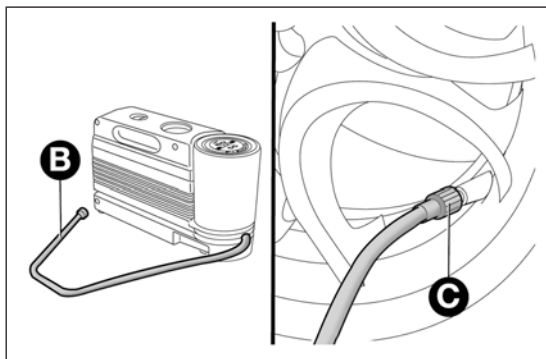

fig. 126
- engage the handbrake, unscrew the tyre valve cap, take out the flexible filler pipe A fig. 126 and tighten the ring nut B on the tyre valve;